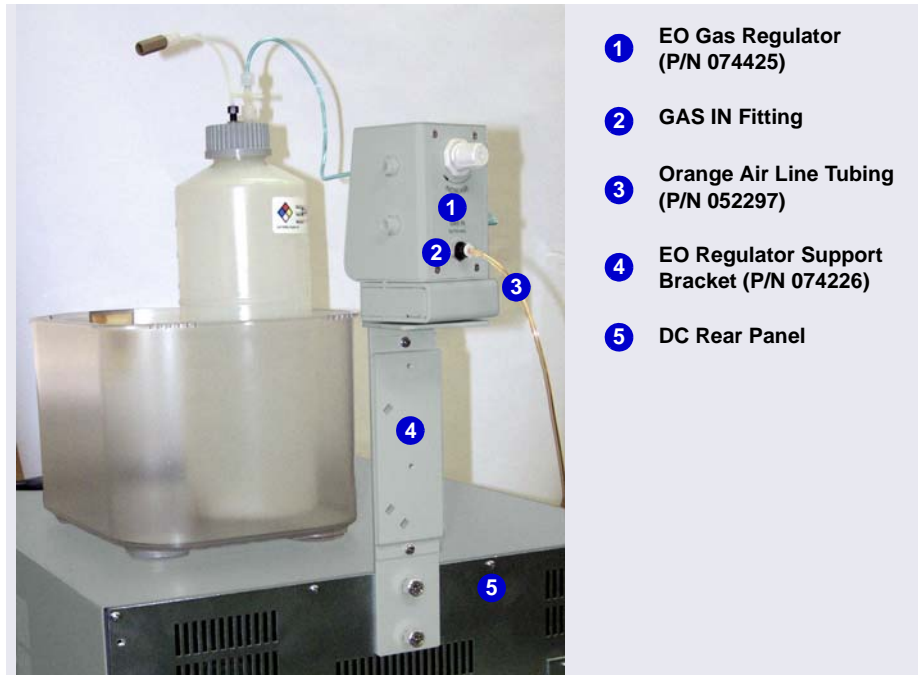

Figure A-2. EO Gas Regulator Connections
1. Attach the EO regulator support bracket (P/N 074426) to the rear panel of the DC (see Figure A-2) or to the regulator bracket on the VWD or PDA.